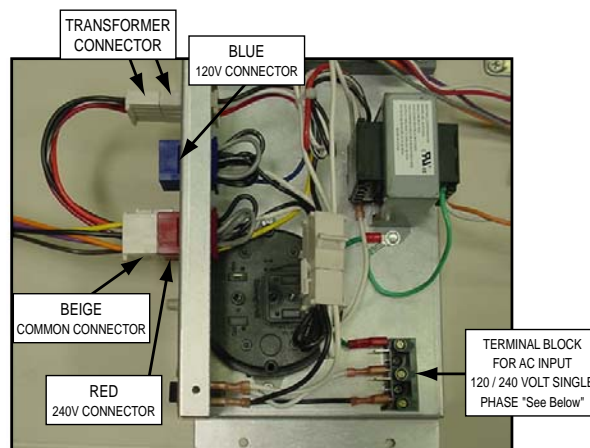

Figure 16.
- The MiniMax NT LN heater is prewired for 240-volt AC connection using the “RED” connector and the “BEIGE” common connector; see below, Figure 16. For 120-volt AC supply, remove the “BEIGE” common connector and plug it into the “BLUE” common connector.
You need to open the right door then remove the control panel cover for servicing the Line Terminal Block as shown in Figures 16 & 17, (see item 40 in the exploded view on page 33).